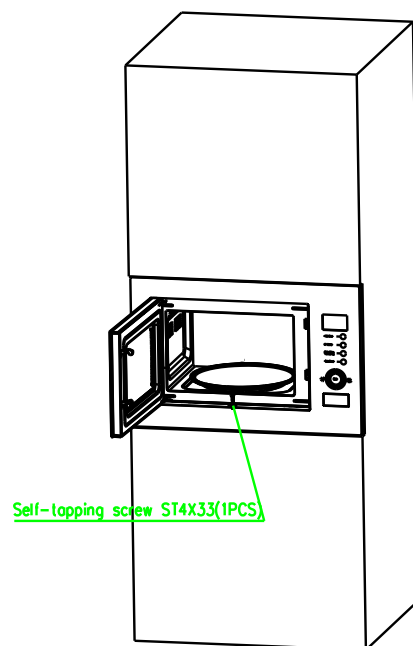

Fig.5
e) Open the door, then fix it with screws, as shown in Fig 5.
Opening size (W*H*D):378*600*550(mm) as shown in Fig.5 “E”, “D”, “F”.